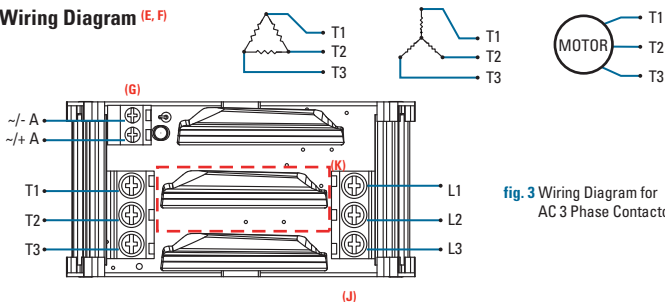

fig. 3 Wiring Diagram for AC 3 Phase Contactor.
- Wire the contactor to the input control side following the corresponding wiring diagram (fig. 3 or fig. 4). AWG #24 minimum, AWG #12 maximum (0.2-3.3 mm²), choose wire gauge according to load current. Maximum recommended terminal screw torque input 4.3 in-lbs (0.5 Nm).